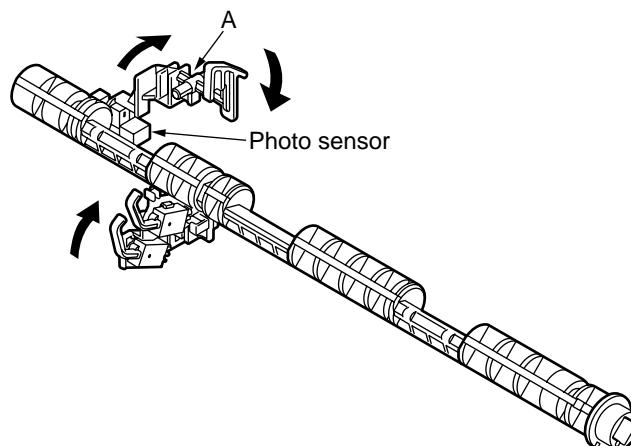

Figure 2-18
(2) Bottom; top line detection and paper existence detection(See Figure 2-18.)